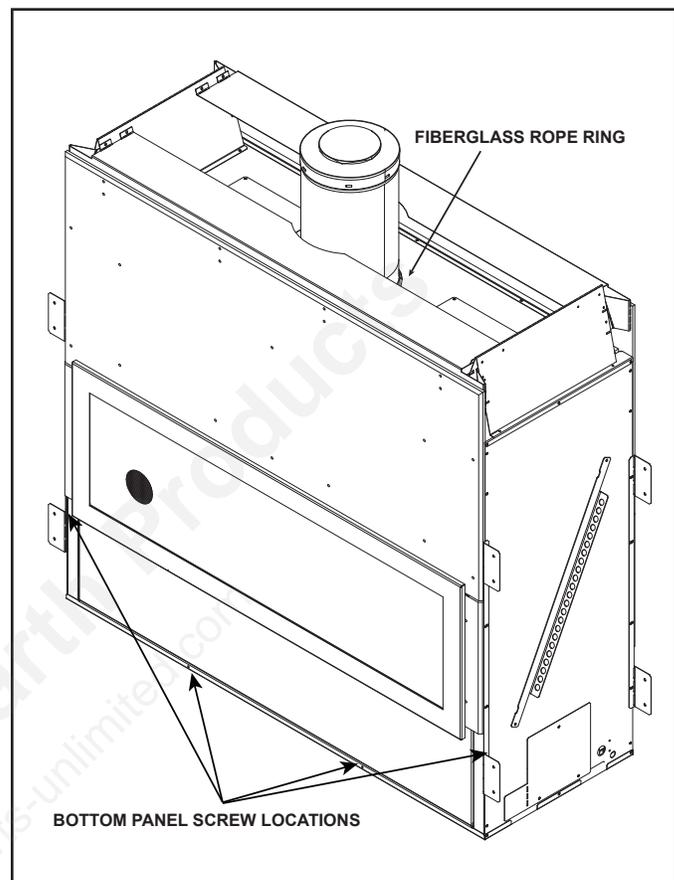

Figure 6.1 Location of Fiberglass Rope Ring
4. Remove bottom metal panel by removing four screws. Screw locations are shown in Figure 6.1. The two screws on the bottom side are located behind the panel. Remove all four screws and gently lift the panel off the appliance avoiding contact with the non-combustible board if possible.
Figure 6.1 shows how to properly position, level, and secure the appliance. Nailing tabs are provided to secure the appliance to the framing members.